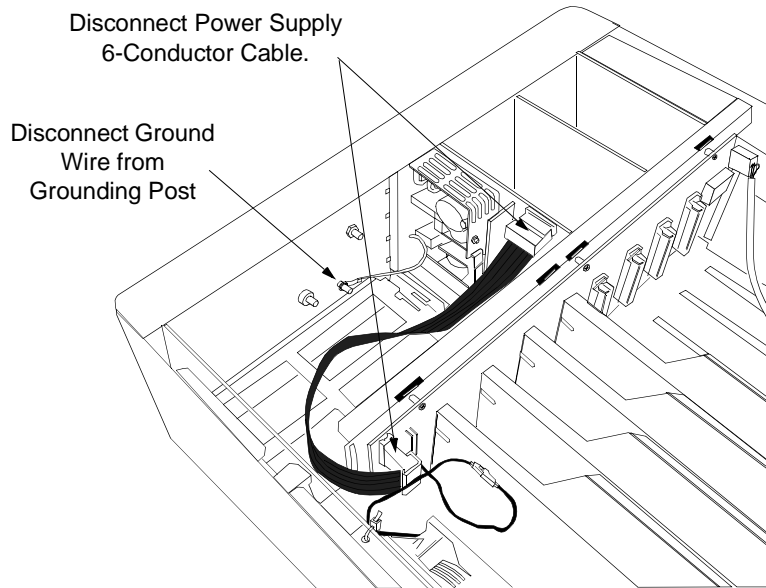

Figure 7-9 Removing the Power Supply Cable
- Step 1.** Disconnect and remove the 6-conductor cable from the Power Supply to the Receiver backplane at both ends. See Figure 7-9.
Step 3. Connect the Power Supply ground wire to the threaded Grounding Post on the inside of the blank panel. See Figure 7-9.
Step 4. Connect the 6-conductor cable to the Receiver backplane and to the Power supply. See Figure 7-9. The cable can be inserted only one way.